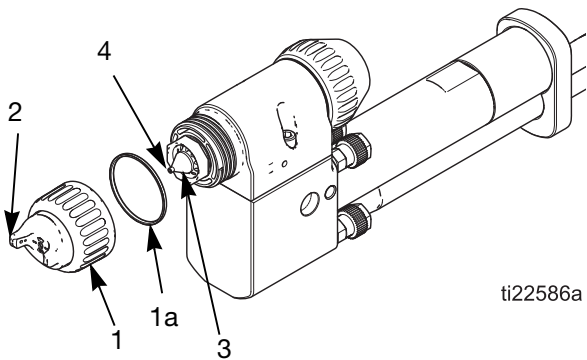

FIG. 21. Clean Air Cap and Fluid Nozzle
3. Remove the retaining ring (1) and air cap (2). See FIG. 21, page 33.
4. Wipe the fluid nozzle (3) and the exterior of the gun clean with a cloth dampened in solvent. Avoid getting any solvent into the air passages. Whenever possible, point the gun down when cleaning it.
5. If it appears that there is paint inside the fluid nozzle (3) air passages, remove the gun from the line for servicing.
6. Clean the air cap (2) with the soft bristle brush and solvent, or submerge the air cap in a suitable solvent and wipe it clean. Do not use metal tools.
7. Carefully install the air cap (2). Be sure to insert the electrode (4) through the center hole of the air cap.
8. Rotate the air cap (2) to the desired position.
9. Make sure the u-cup (1a) is in place on the retaining ring (1). The lips must face forward.
10. Tighten the retaining ring (1) until the air cap (2) is held firmly in place; you should not be able to rotate the air cap horns by hand.